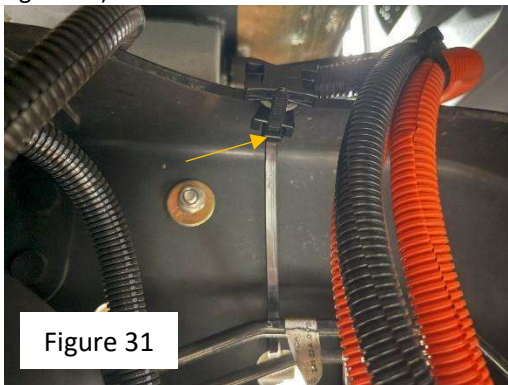

Figure 28
31. Notch the plastic cover as shown to clear the single fuse block (Figure 28)